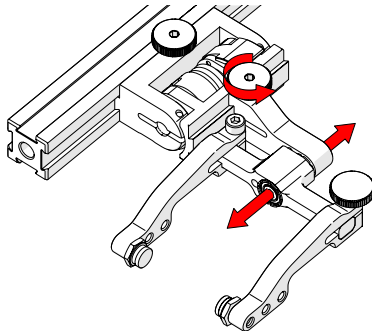

Fig. 46 - Adjust swing arm
- Use the swing arm knob to position the swing arm (Fig. 46).